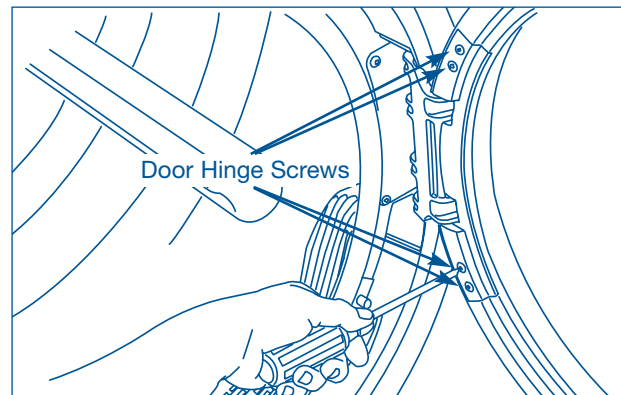

Figure 4-3.
2. Using a #2 square bit screwdriver, extract the 4 long, course thread, countersunk hinge screws from door. (See Figure 4-3)